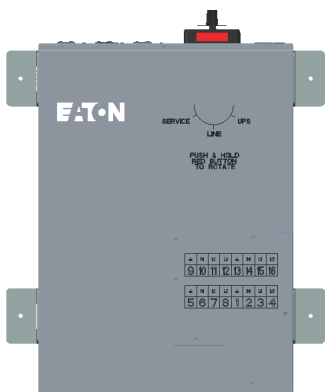

Figure 14. BPM with Wallmount Brackets
2. Use the provided wallmount brackets to firmly secure the BPM to the wall (Figure 14).